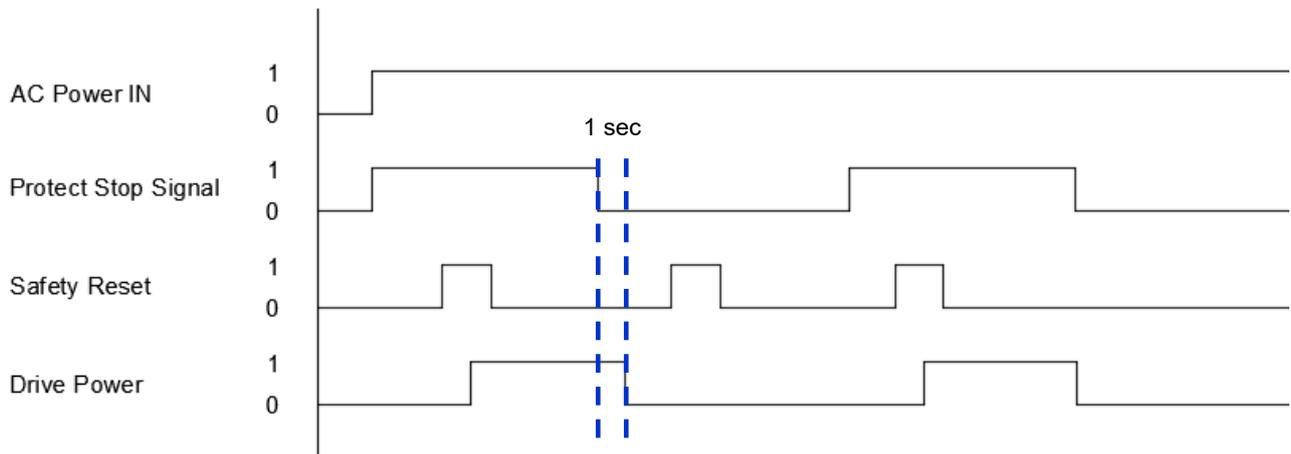

Figure 7.42 Auto mode safety signal timing chart
6. The safety signal timing chart of the controller under Auto mode is as shown in the figure 7.42 below.